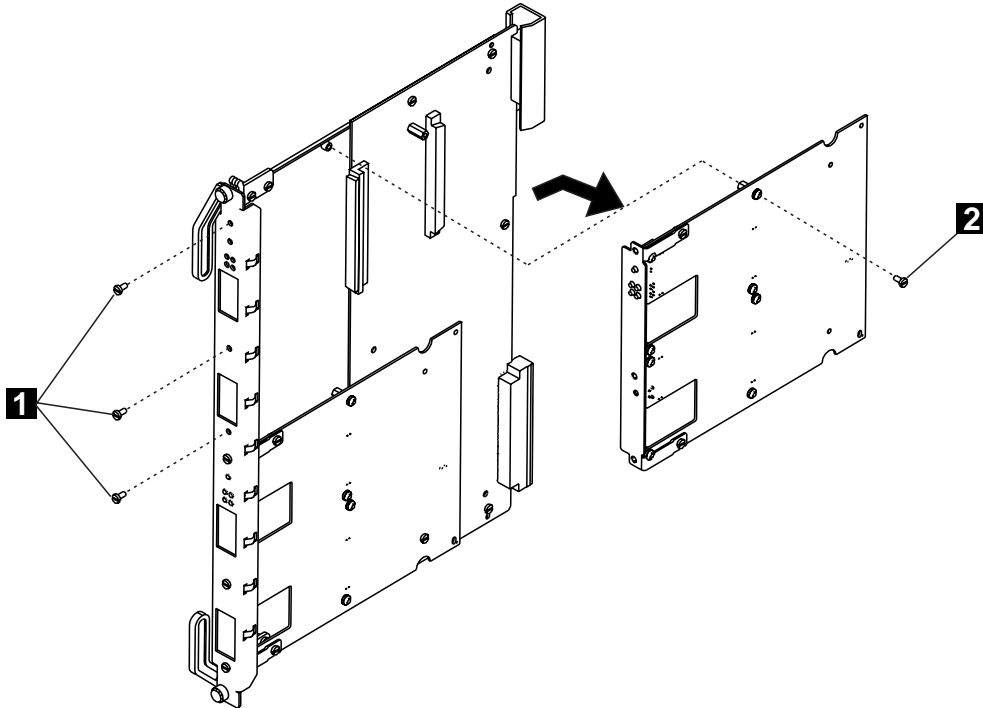

Figure 13. Removing the Motherboard
- 1 Detach the motherboard on which you want to install the I/O card by removing the four screws (1 and 2 in Figure 13) that hold the motherboard to the module. Retain the screws for reattaching the motherboard.